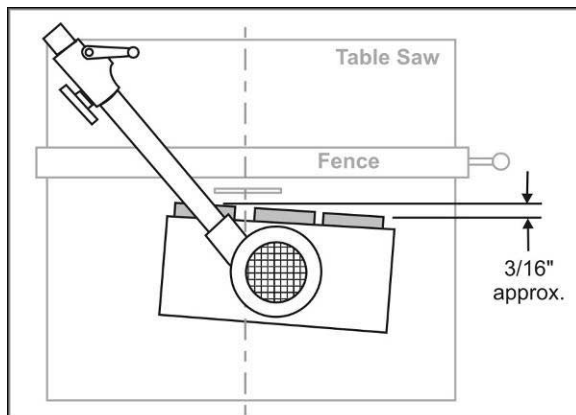

Figure 19
- Position the 3-roller stock feeder so that the axis of the saw blade lines up between the center roller and outfeed roller. (See Figure 19.) Position the 4-roller stock feeder so that the axis of the saw blade lines up between the center wheels. These positions will allow the Stock Feeder to grip the offcut of the workpiece as it leaves the blade.
- Rotate the Stock Feeder so that the direction of feed is angled slightly toward the fence by approximately  $3/16"$  (5mm); that is, the outfeed roller should be slightly closer to the fence than the infeed roller. See Figure 19.